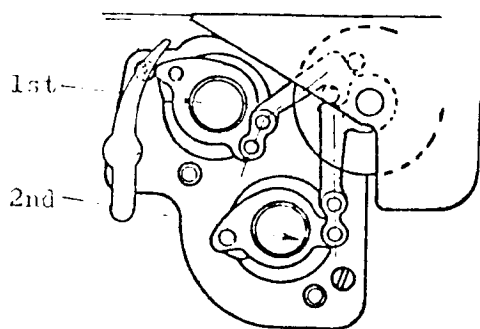

Fig. 4-13
- 4 Set the damper gears so that the arms come into the place as shown in Fig. 4-13, by turning the damper gears.